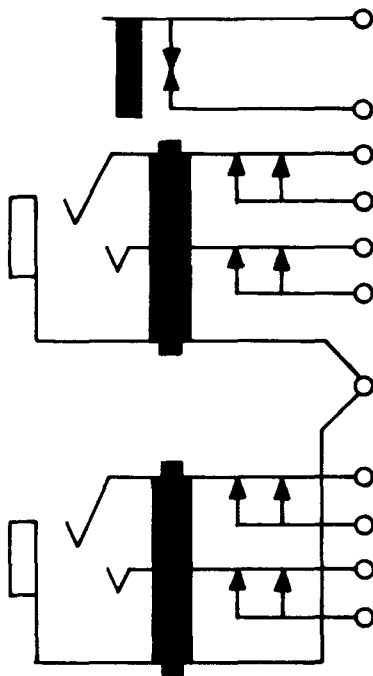

Fig. 2—601A or AM Jack
2.02 601A and AM: These are single-mounted twin miniature jacks (Fig. 2).